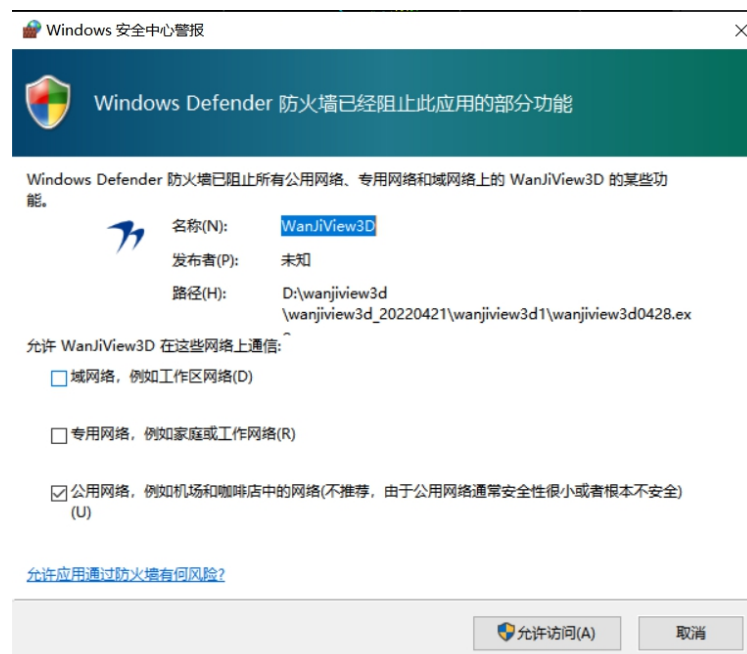

Figure 10 Firewall Warning
2. Before the first  use, you need to ensure that the computer IP is 192.168.2.88, and the software is not prohibited by the firewall or third-party security software, as shown in Figure 10 below, check both the domain network and the private network, and click Allow access to ensure that the software can work normally use.